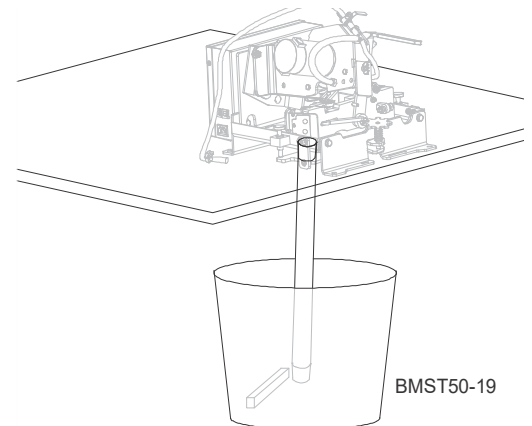

FIG. 2-6
3. Place the filter magnet into the bottom of the oil bucket near the drain output. See FIG. 2-6